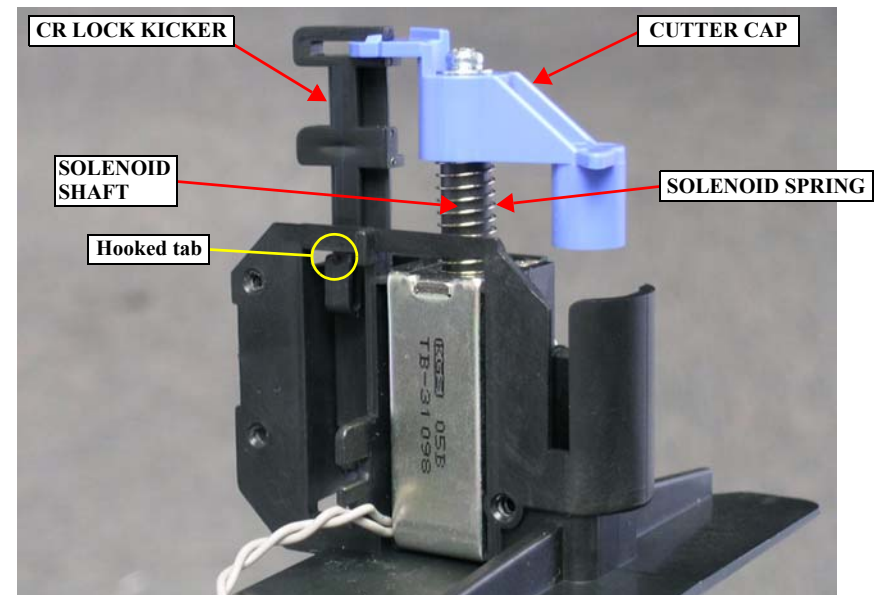

Figure 4-71. Removing the CR LOCK KICKER
10. Release the hooked tab that secures the CR LOCK KICKER and remove it together with the CUTTER CAP, SOLENOID SPRING, and the SOLENOID SHAFT. *See Figure 4-71.*